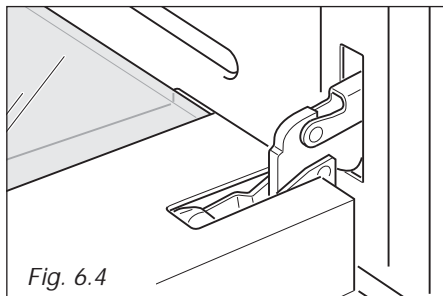

Fig. 6.4
- Fully open the oven door (fig. 6.4).
1. Make sure the door is locked open (see figs. 6.4, 6.5, 6.6).